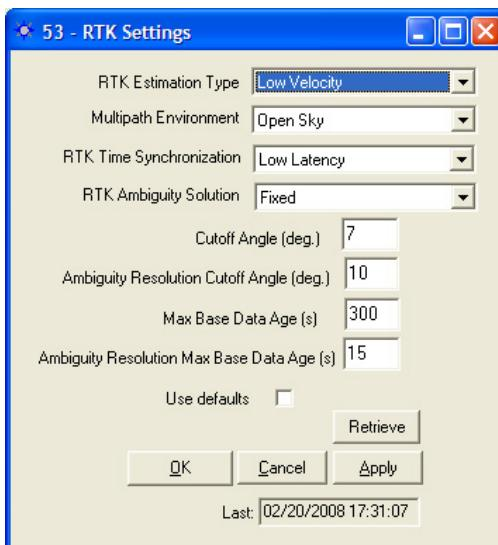

Figure 27: 53 – RTK Settings Window
- ✓ Click the *RTK Setting Control* button to apply a variety of RTK settings to message 0x53. The 53 – RTK Settings window opens (see Figure 27). Message 0x53 is described in detail in the *Technical Reference Manual*.
Refer to Figure 27 for the options below: